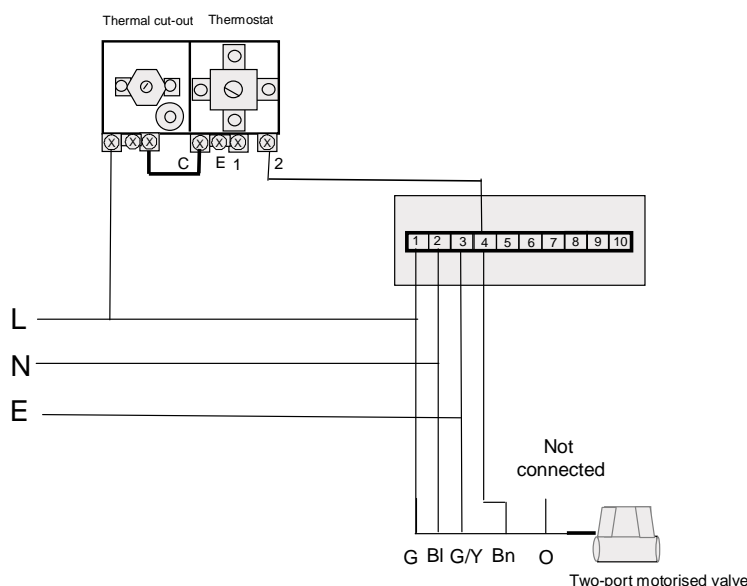

Fig 8.2
8.2.1 The two port valve should be wired to the twin thermostat as per Figure 8.2 below: